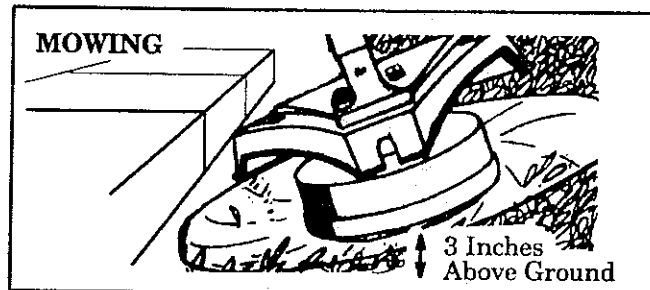

Figure 15
1. **TRIMMING** – Figure 15. Hold the bottom of the trimmer head about 3 inches above the ground and at an angle. Allow only the tip of the line to make contact. Do not force the trimmer line into the work area.